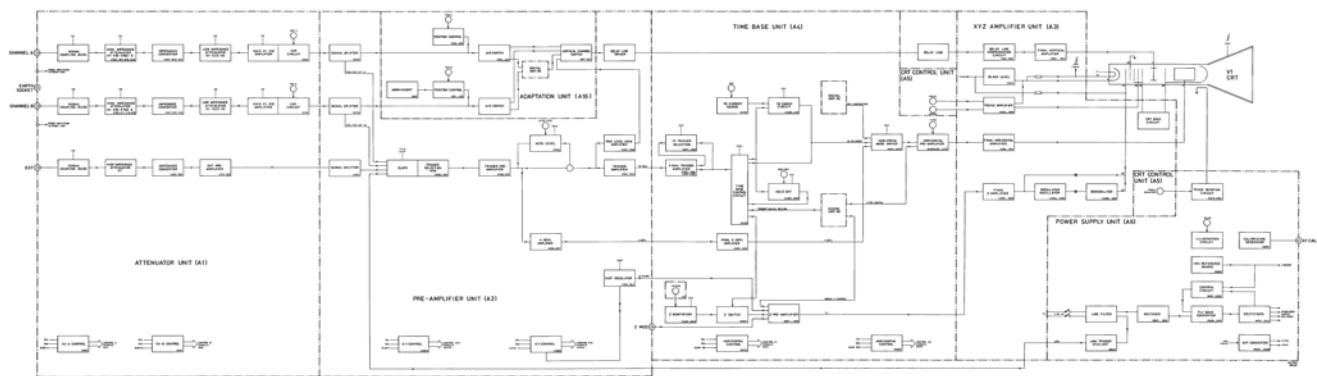

Figure 3-1 Block Diagram, wiring part
3.2 BLOCK DIAGRAM DESCRIPTION (see figure 3.1 and 3.2)